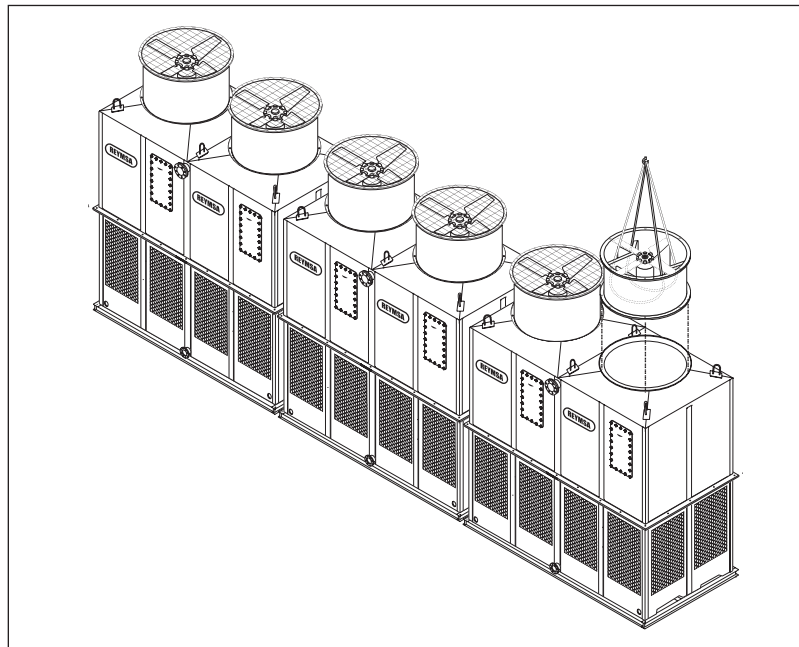

Figure A-72: Fan Duct installation for a Modular Tower (RTM-B-S)
- H.** Follow the same instructions to place the remaining fan ducts (see figure A-72).